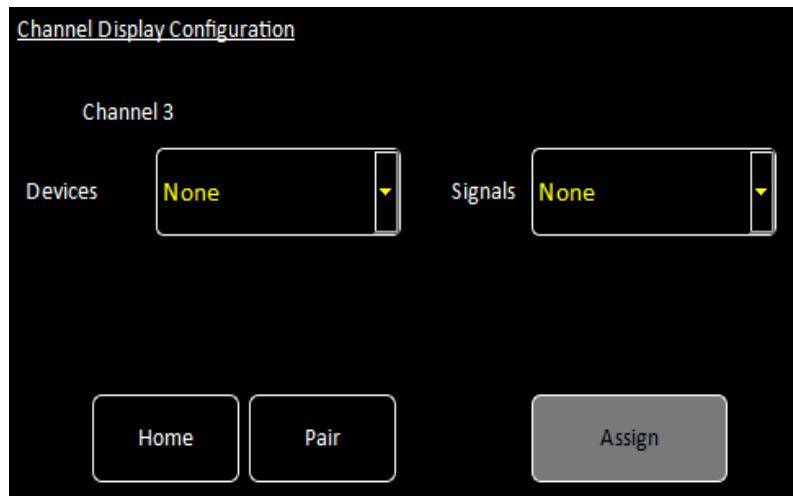

Figure 4-24 Channel Display Configuration page
- 1 Tap the panel once to display the Channel Display Configuration Page (see Figure 4-24).
- 3 Tap the panel twice to display the Channel Display Configuration Page (see Figure 4-24).
This page allows the user to configure inputs and outputs associated with a panel on the Home page. Figure 4-24 shows the page when the panel is unconfigured.